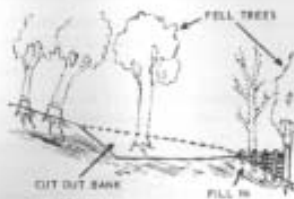

Figure 35. Preparing landing pads in mountainous terrain rotary-wing aircraft.
(7) Landing pads can be prepared on mountains or hillsides by cutting and filling (figure 35). Caution must be exercised to ensure there is adequate clearance for the rotors.